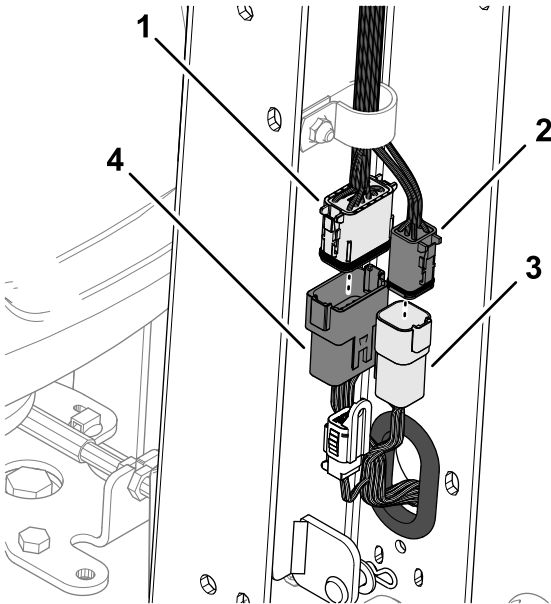

Figure 9
2. Plug the 12-pin connector of the machine harness into the 12-socket connector of the handlebar wire harness (Figure 9).